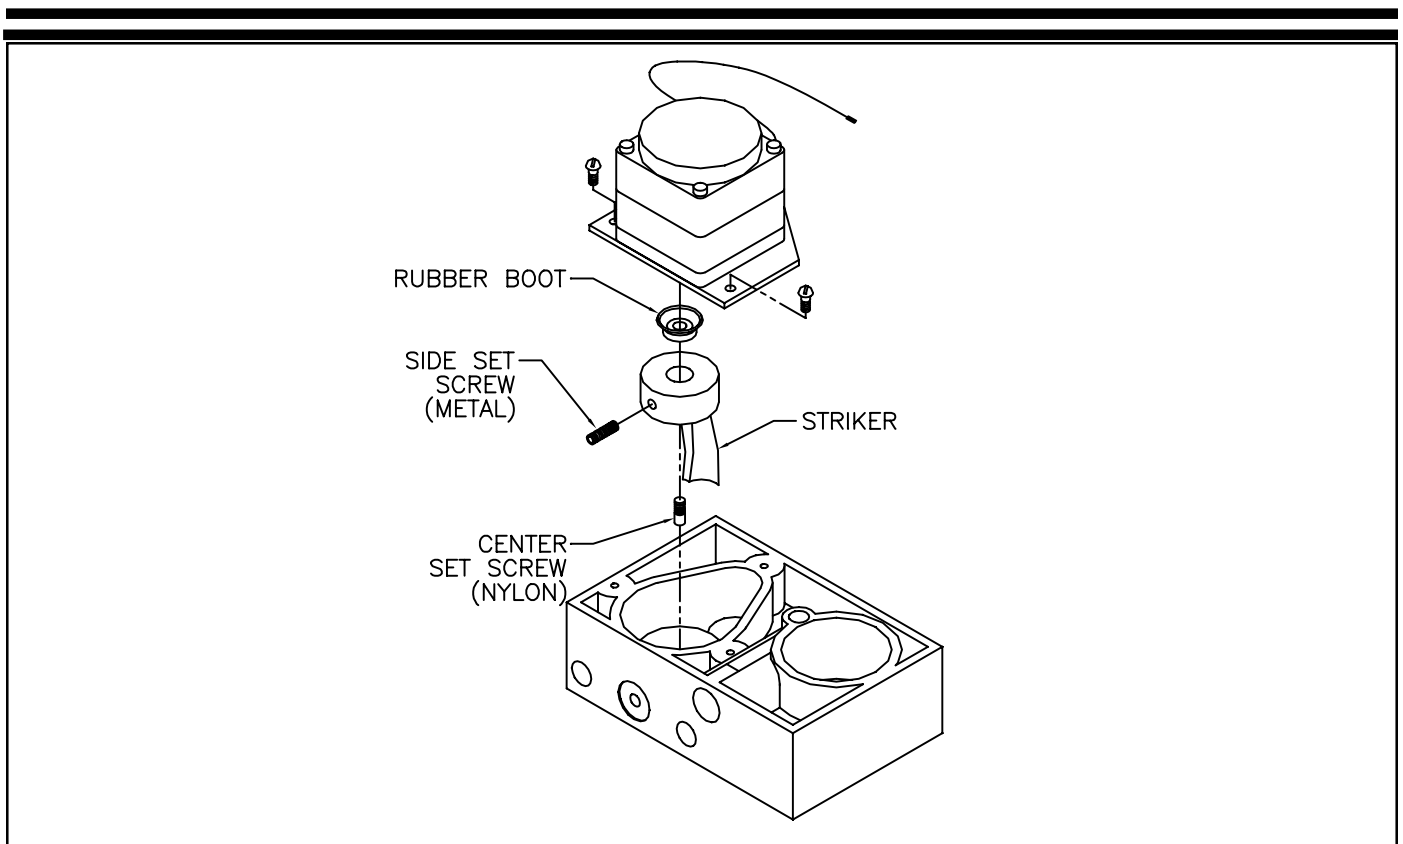

Figure 18 - Motor Striker Assembly
- 4.5.1 Disconnect power to the analyzer motor. Remove motor wires from terminals M1, M2, M3 and G. See Figures 18 and 19.
- 4.5.6. If the motor is to be replaced, remove the striker and rubber boot from the motor shaft. Install the boot on the new motor and striker after turning the center set screws out approximately two (2) turns. Refer to Figure 18.
Failure to the thermistor will appear as an excessively high or low signal. Proceed as follows for testing and replacement. Refer to Figure 18.
4.8.1 Motor Capacitor Test - Figure 18